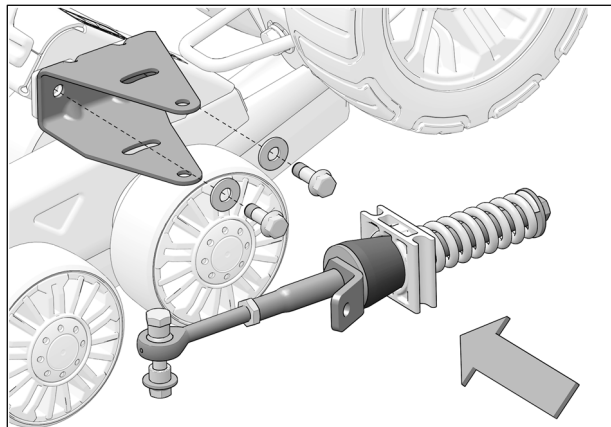

Fig. 15
6. Re-attach anti-rotation bracket using its assembly bolts and washers. Tighten bolts to 50 N•m [37 lb•pi] of torque. Replace anti-rotation arm back into position. See la Fig. 15